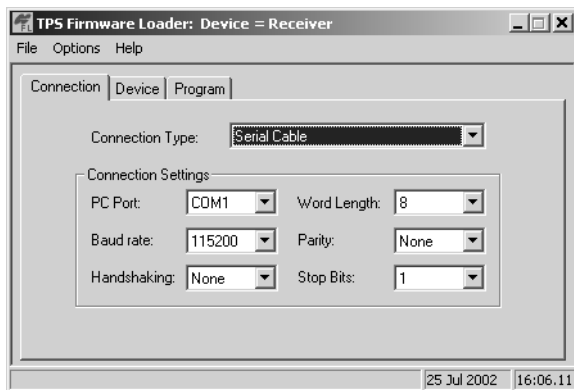

Figure 4-17. FLoader Main Screen
## 4. Activate FLoader (Figure 4-17).
5. On the *Connection* tab, select the COM port on your computer that connects with your receiver and select its speed (usually 115200) (Figure 4-17).